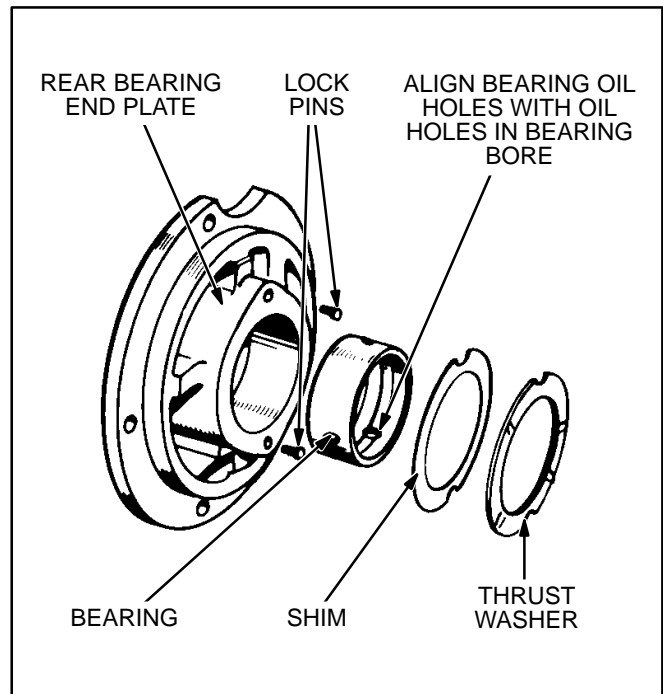

FIGURE 89. REAR CRANKSHAFT BEARING
5. Use oil or gear lubricant to hold the shim(s) and rear thrust washer in position on the rear bearing plate (see Figure 89). The shim goes against the bearing plate and the flat surface of the thrust washer goes against the shim.
Rear Bearing: Use the special driver available to drive in the rear main bearing. Push the bearing into the bearing plate from the inner side to the depth allowed by the flange on the driver. See Figure 89.